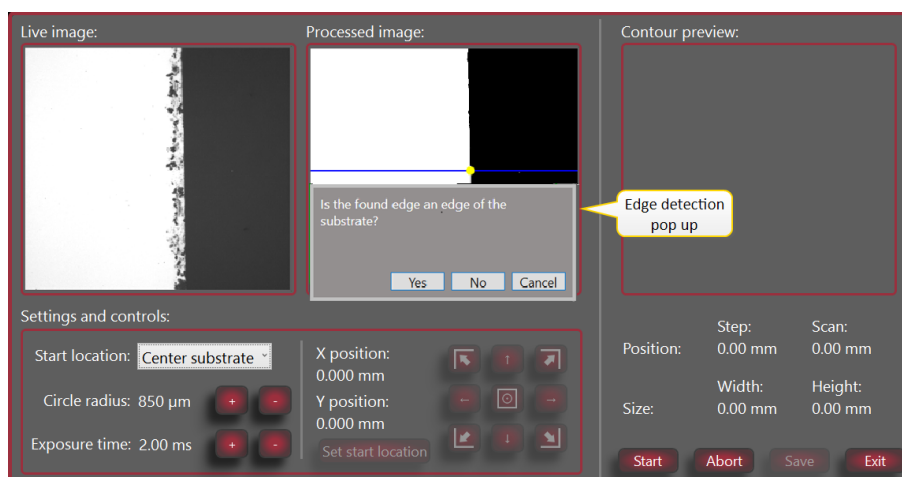

Figure 3-28 Polygon edge found
8. Wait until the edge detection pop up becomes visible, see in **Figure 3-28 below**.